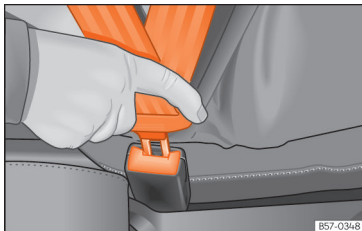

Fig. 24 Insert the latch plate of the seat belt into the buckle.
- Insert the buckle plate in the buckle of the correct seat »» Fig. 24.